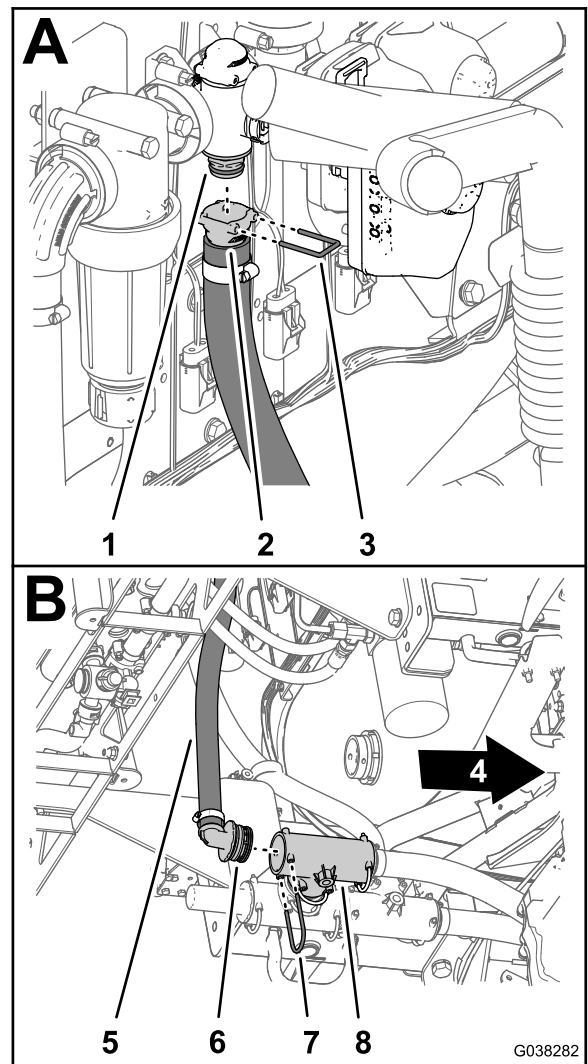

Figure 64
1. Assemble the quick-connect fitting (straight barbed) of the return hose—2.5 x 71 cm (1 x 27-7/8 inches) onto the quick coupling of the rate valve with the retainer (small) that is supplied with the hose (Figure 64).
3. Assemble the 90° barbed fitting of the return hose into the rear port of the inboard T-fitting (Figure 64).